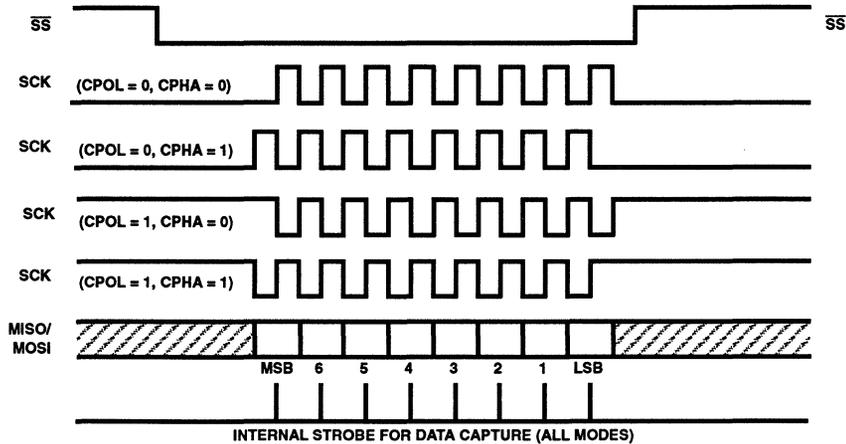

FIGURE 28. DATA CLOCK TIMING DIAGRAM
The MOSI pin is configured as a data output in a master (mode) device and as a data input in a slave (mode) device. In this manner data is transferred serially from a master to a slave on this line; most significant bit first, least significant bit last. The timing diagrams of Figure 28 summarize the SPI timing and show the relationship between data and clock (SCK). As shown in Figure 28, four possible timing relationships may be chosen by using control bits CPOL and CPHA. The master device always allows data to be applied on the MOSI line a half-cycle before the clock edge (SCK) in order for the slave device to latch the data.
on this line; most significant bit first, least significant bit last. The MISO pin of a slave device is placed in the high-impedance state if it is not selected by the master; i.e., its  $\overline{SS}$  pin is a logic one. The timing diagram of Figure 28 shows the relationship between data and clock (SCK). As shown in Figure 28, four possible timing relationships may be chosen by using control bits CPOL and CPHA. The master device always allows data to be applied on the MOSI line a half-cycle before the clock edge (SCK) in order for the slave device to latch the data.
are controlled by the CPOL and CPHA bits in the Serial Peripheral Control Register (SPCR, location \$0A) discussed below. Refer to Figure 28 for timing.
The master device generates the SCK through a circuit driven by the internal processor clock. Two bits (SPR0 and SPR1) in the SPCR of the master device select the clock rate. The master device uses the SCK to latch incoming slave device data on the MISO line and shifts out data to the slave device on the MOSI line. Both master and slave devices must be operated in the same timing mode as controlled by the CPOL and CPHA bits in the SPCR. In slave devices, SPR0, SPR1 have no effect on the operation of the SPI. Timing is shown in Figure 28.
As shown in Figure 28, with CPHA = 0, the first bit of data must be applied to the MISO line prior to the first transition of the SCK. In this case,  $\overline{SS}$  going low is used to provide the first clock edge of a transfer. A device is prevented from writing to its SPI data register while  $\overline{SS}$  is low and CPHA = 0 (see description of WCOL under **Serial Peripheral Status Register** for more details). **These facts require that  $\overline{SS}$  go high between SPI data transfers whenever CPHA = 0.**
**B3, CPOL** The clock polarity bit controls the normal or steady state value of the clock when data is not being transferred. The CPOL bit affects both the master and slave modes. It must be used in conjunction with the clock phase control bit (CPHA) to produce the wanted clock-data relationship between a master and a slave device. When the CPOL bit is a logic zero, it produces a steady state low value at the SCK pin of the master device. If the CPOL bit is a logic one, a high value is produced at the SCK pin of the master device when data is not being transferred. The CPOL bit is not affected by reset. Refer to Figure 28.
**B2, CPHA** The clock phase bit controls the relationship between the data on the MISO and MOSI pins and the clock produced or received at the SCK pin. This control has effect in both the master and slave modes. It must be used in conjunction with the clock polarity control bit (CPOL) to produce the wanted clock-data relation. The CPHA bit in general selects the clock edge which captures data and allows it to change states. It has its greatest impact on the first bit transmitted (MSB) in that it does or does not allow a clock transition before the first data capture edge. The CPHA bit is not affected by reset. Refer to Figure 28.